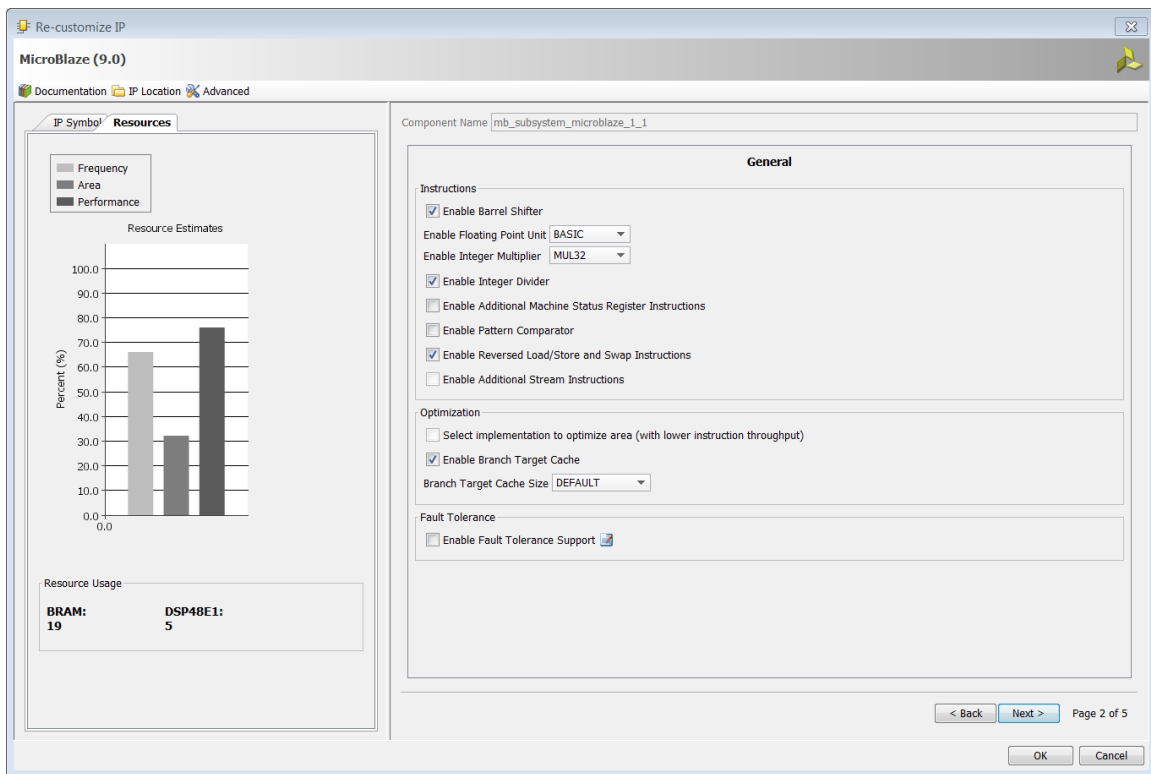

Figure 84: Page 2:Re-customize IP
3. On page 2 of the Re-customize IP dialog box (Figure 84):